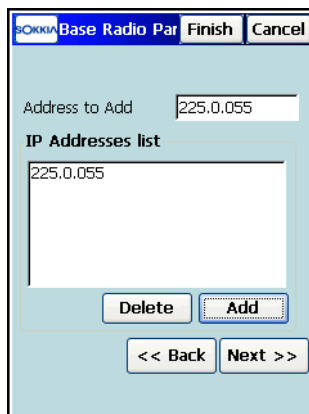

Figure 4-16. Base Multicast Parameters
- For AirLink CDMA (Multicast UDP), set IP addresses for data transmission from the Base Station to more than one Rover Receiver using CDMA modems (Figure 4-16).